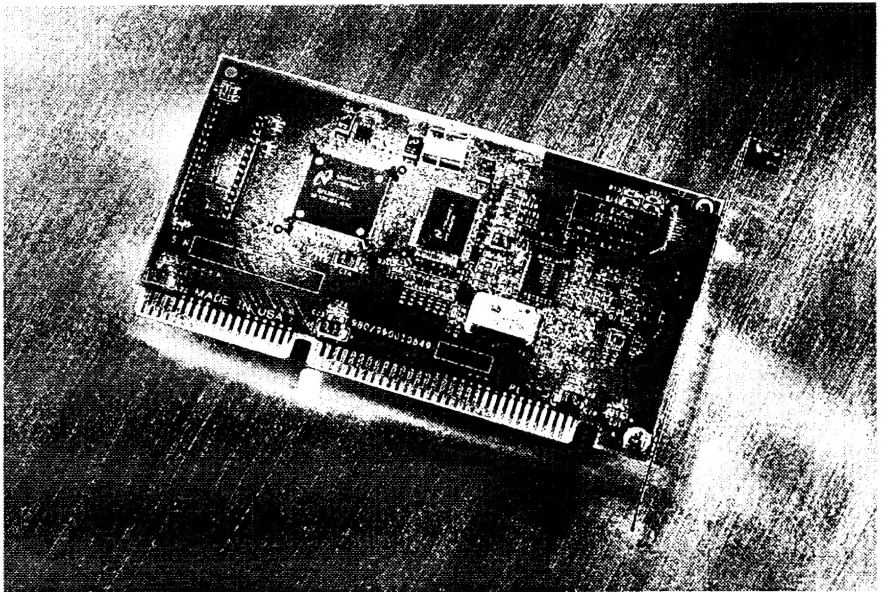
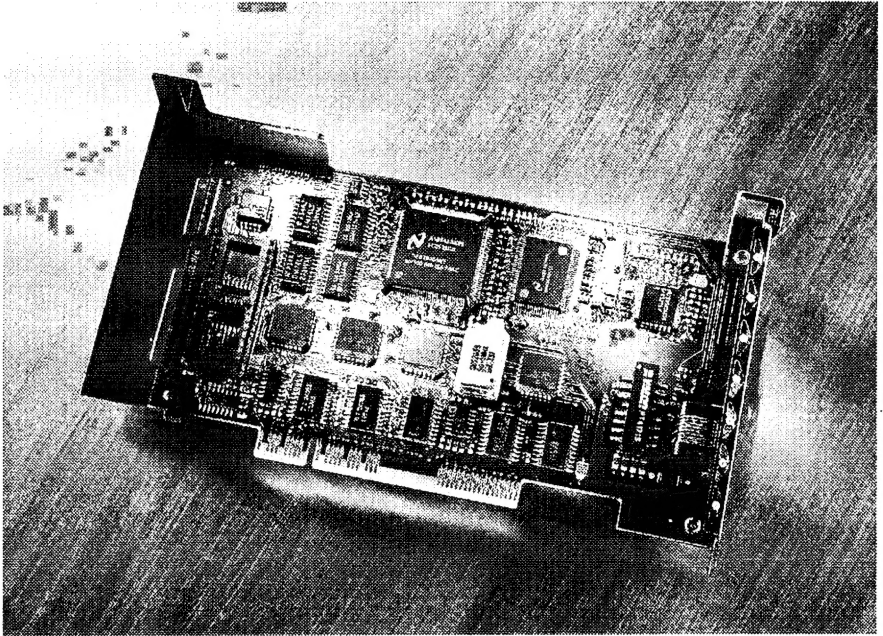

Figure 1. Ethernet ISA 10/100 Adapter
Figure 2. Ethernet MCA 10/100 Adapter
All major Network Operating Systems are supported, and for standard operating modes, no configuration input is required from the user. The OC-2375 adapter is shown in Figure 1.
All major Network Operating Systems are supported, and for standard operating modes, no configuration input is required from the user. The OC-2335 adapter is shown in Figure 2.
- Ethernet ISA 10/100 Adapter, OC-2375 (figure 1) or Ethernet MCA 10/100 Adapter, OC-2335 (figure 2)